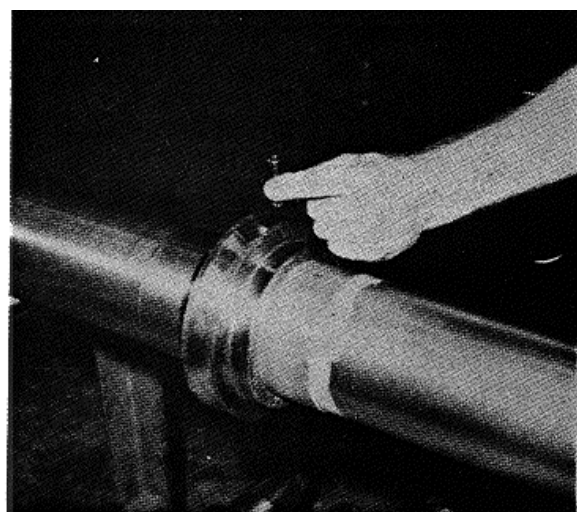

FIGURE 9-104.
c. Insert center spacer on shaft and install locking pins (see figure 9-104).